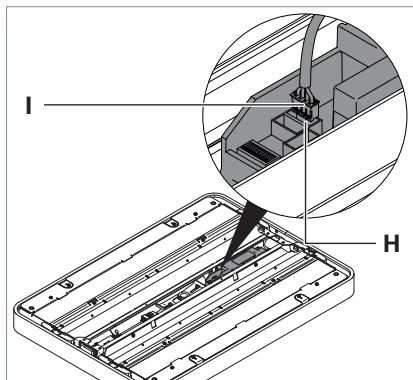

Fig. 10: Connecting the light head, Part 1.
- Connect the plug **I** to the socket **H** "Tastm." at the light head, see Fig. 10.